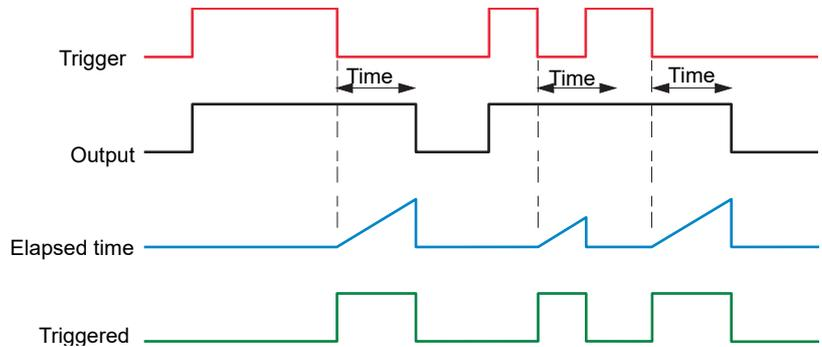

Figure 121 'Min On' timer definitions
**Note:** For ease of comparison the two time edits in Figure 121 were both to the same value. This is not a necessary condition.